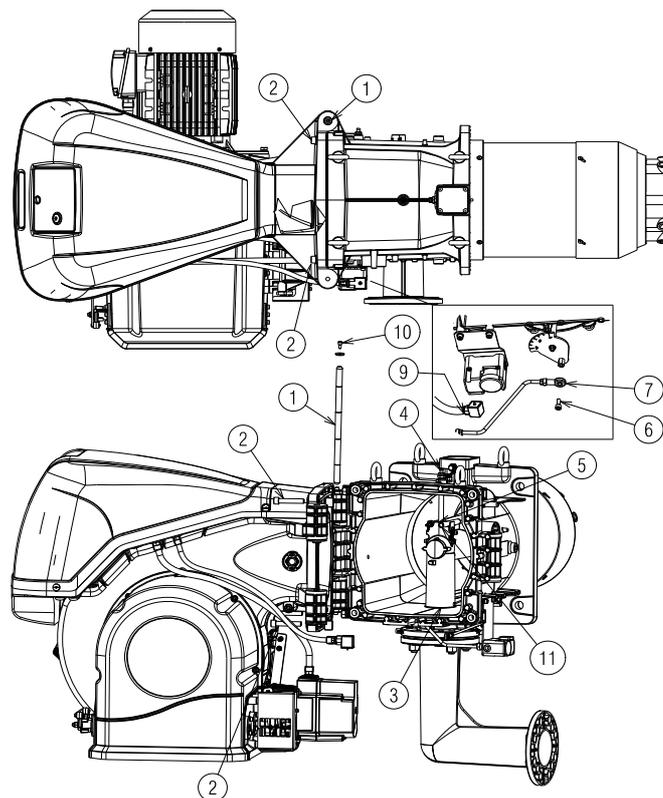

Fig. 15
The burner leaves the factory set for opening to the left, therefore maintaining the pin 1)(Fig. 15) in the housing.
- A** Remove the screw 6) releasing the tie-rod 7)(Fig. 15);
- B** Disconnect the plug/socket 9)(Fig. 15) of the maximum gas pressure switch;
- E** Fully open the burner as in Fig. 15;
To open the burner from the opposite side, before removing the pin 1)(Fig. 15), make sure that the 4 screws 2) are tight. Then shift the pin 1) to the opposite side, only then is it possible to remove the screws 2); then proceed as described in point C.